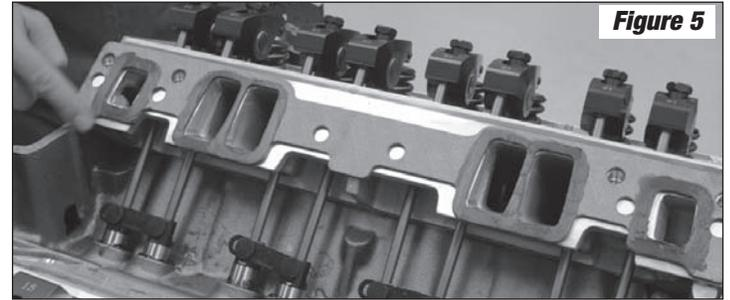

Figure 5
4. With the intake gaskets in place, apply a thin layer of silicone, with your finger, around the water passages on the intake manifold (See Figure 5).